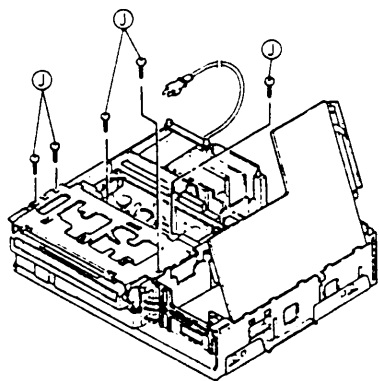

Fig. 1-1-5 Cassette housing assembly
2. Refer to Fig 1-1-5. Raise the Main board and stand it on the right edge as shown in Fig. 1-1-5.
3. Take out 5 screws (J).